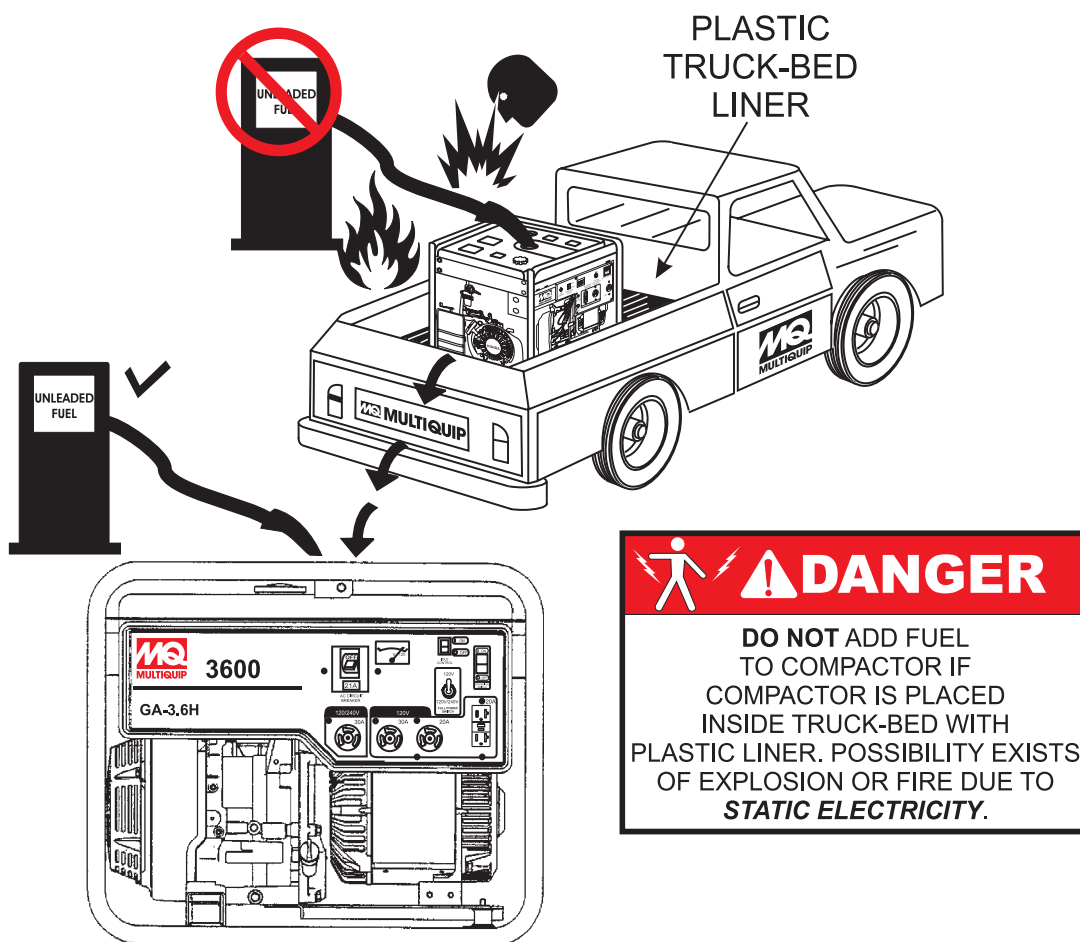

Figure 3. Generators Refueling
Adding fuel to the tank should be done only when the engine is stopped and has had an opportunity to cool down. In the event of a fuel spill, **DO NOT** attempt to start the engine until the fuel residue has been completely wiped up, and the area surrounding the engine is dry. If generators is placed in a truck bed with a plastic liner, **REMOVE** generators from truck bed and place on ground (Figure 3) to refuel. This possibility exist of *fire* or *explosion* due to static electricity.
2. When grounding the generators (Figure 3) connect the ground cable between the lock washer and the nut on the generators and tighten the nut fully. Connect the other end of the ground cable to earth ground.